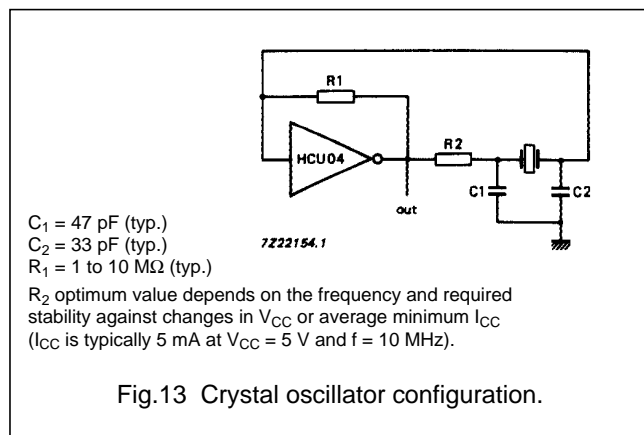

Fig.13 Crystal oscillator configuration.
- In crystal oscillator designs (see Fig.13)